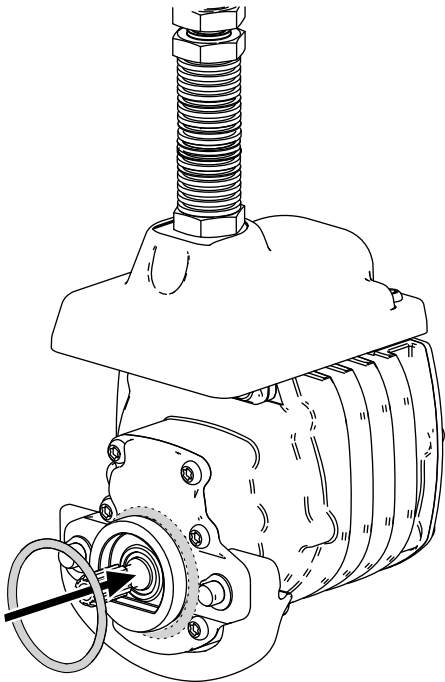

Figure 14
3. Install an O-ring to each reel motor as shown in Figure 14.